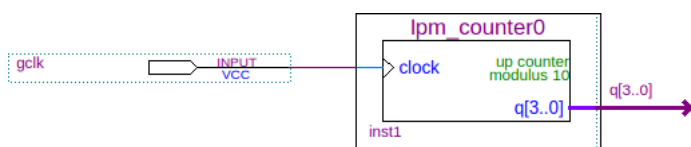

Figure 2.6: Connecting the input port and lpm_counter.
10. Add a bus at the output of the counter and label it **q[3..0]**. Refer Figure 2.6.